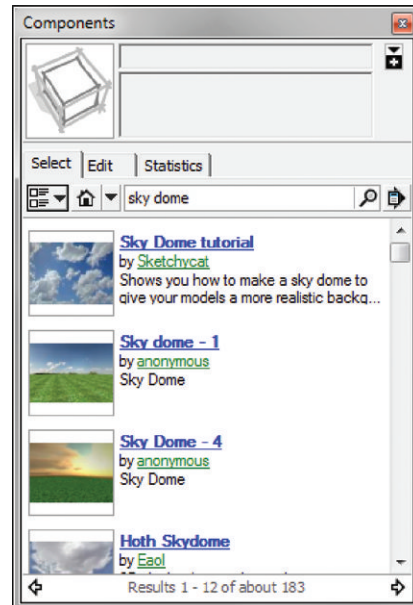

Figure 19.13 A sky dome places a picture of a real sky behind an image, which will look better than a simple color sky.
- ☑ Add a sky dome to the animation file to create a more realistic sky effect. Search the 3D warehouse for **sky dome** (Figure 19.13).